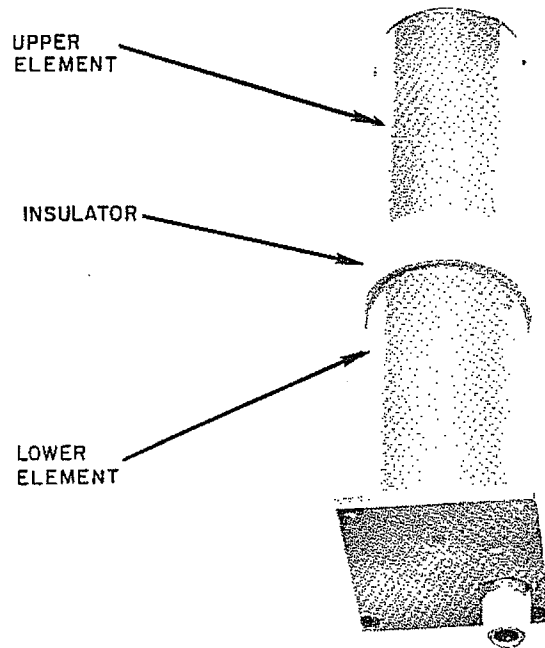

Figure 1-9. Antenna AT-803/VR
d. Antenna AT-803/VRC (fig. 1-9)